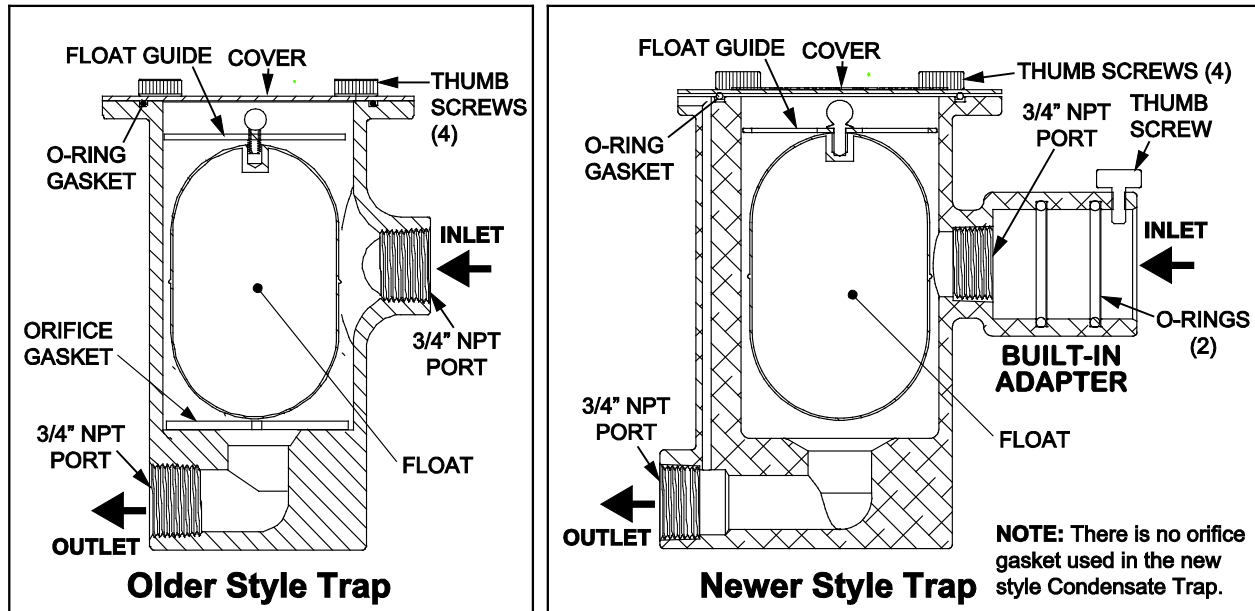

Figure 11: Condensate Trap P/N 24060 (Old and New Styles)
For Benchmark 2.0 boilers, the Condensate Trap (P/N 24060) is attached to the connecting manifold drain pipe using a special adapter (Figure 11).
There are two slightly different types of Condensate Traps that may be used in your configuration; an older style with a separate inlet adapter, and a newer style with a built-in adapter (see Figure 11). Maintenance is the same, except that the newer style does not need an orifice gasket (Step 5).
2. Refer to Figure 11 and loosen the four (4) thumbscrews securing the cover on the Condensate Trap. Remove the cover.
5. For **Old Style** Condensate Trap, remove, discard, and replace the currently installed orifice gasket from the trap with the one provided in the kit (Figure 11). **New Style Trap** does NOT use an orifice gasket, so this step is not necessary for that type.